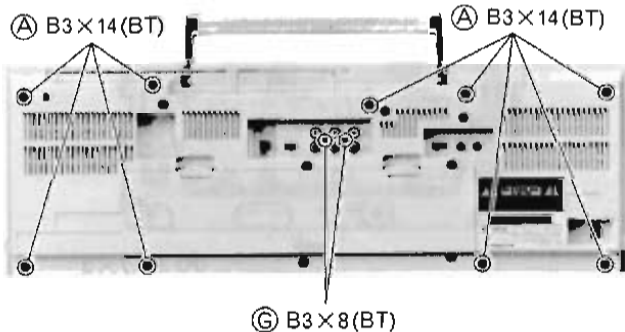

Fig. 2
Remove the record arm spring (F) and four fixing screws (G) shown in Figs. 2, 5.